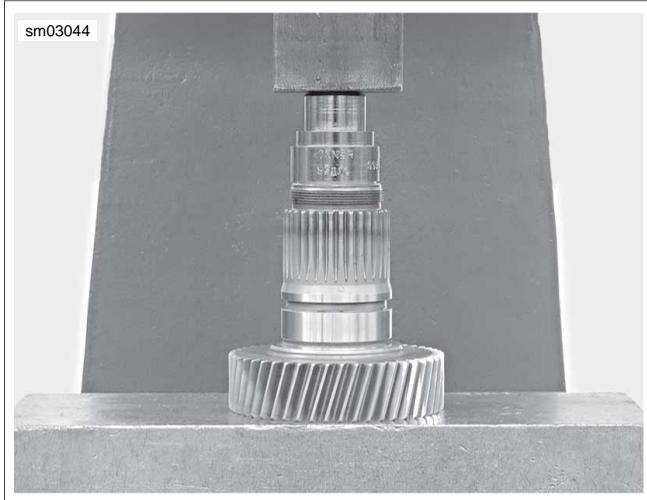

Figure 7-41. Pressing in Seal
4. See Figure 7-41. Turn over tool and press in mainshaft seal using the 0.090 in. step with garter spring side down.